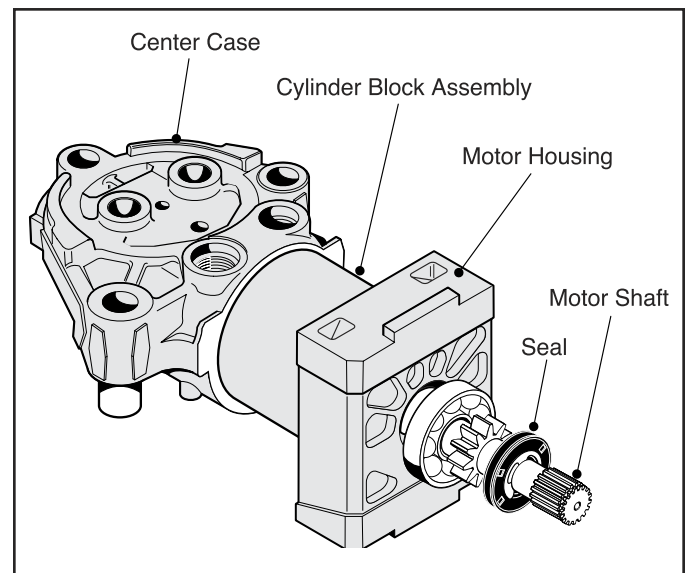

Fig. 22, Center Case and Motor Shaft Assemblies
2. After removing the remaining two bolts holding the Center Case to the Upper Case, place one hand over the Motor Housing and the other hand over the Center Case. While compressing both portions together slightly, lift the entire assembly from the Upper Case. (Fig. 22)